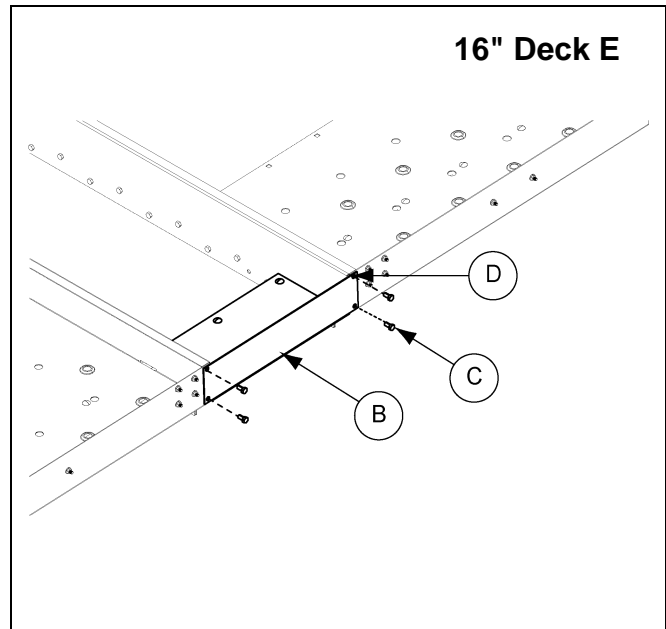

Figure 8L Deck Adapter Bracket to Decks
2. Attach deck adapter bracket (HP1624AB) to Deck A, Deck C and toe boards using four (4) 3/8" x 1" bolts (S-7105) and nuts. (See Figure 8L.)